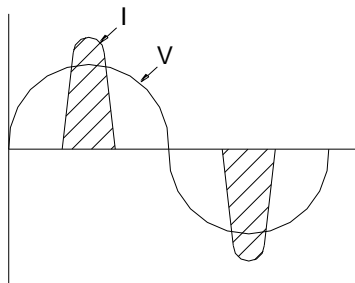
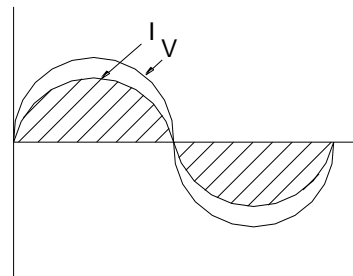

Figure 4.3
Figure 4.4
(1) For a traditional AC/DC converter, there is a bridge rectifier and bulk capacitors which charges/discharges in a very short period of time. Hence, a high current pulse is introduced at AC input line and generates harmonic current noises through the power line. The un-intentional harmonic current noise could interfere with other electrical devices and also reduce the Power Factor (See Figure 4.3). In order to prevent interference with other equipments, PFC (Power Factor Correction) circuit should be used on the switching power supply that makes the current waveform more sinusoidal (Figure 4.4), and improves the quality and efficiency of the AC power source.